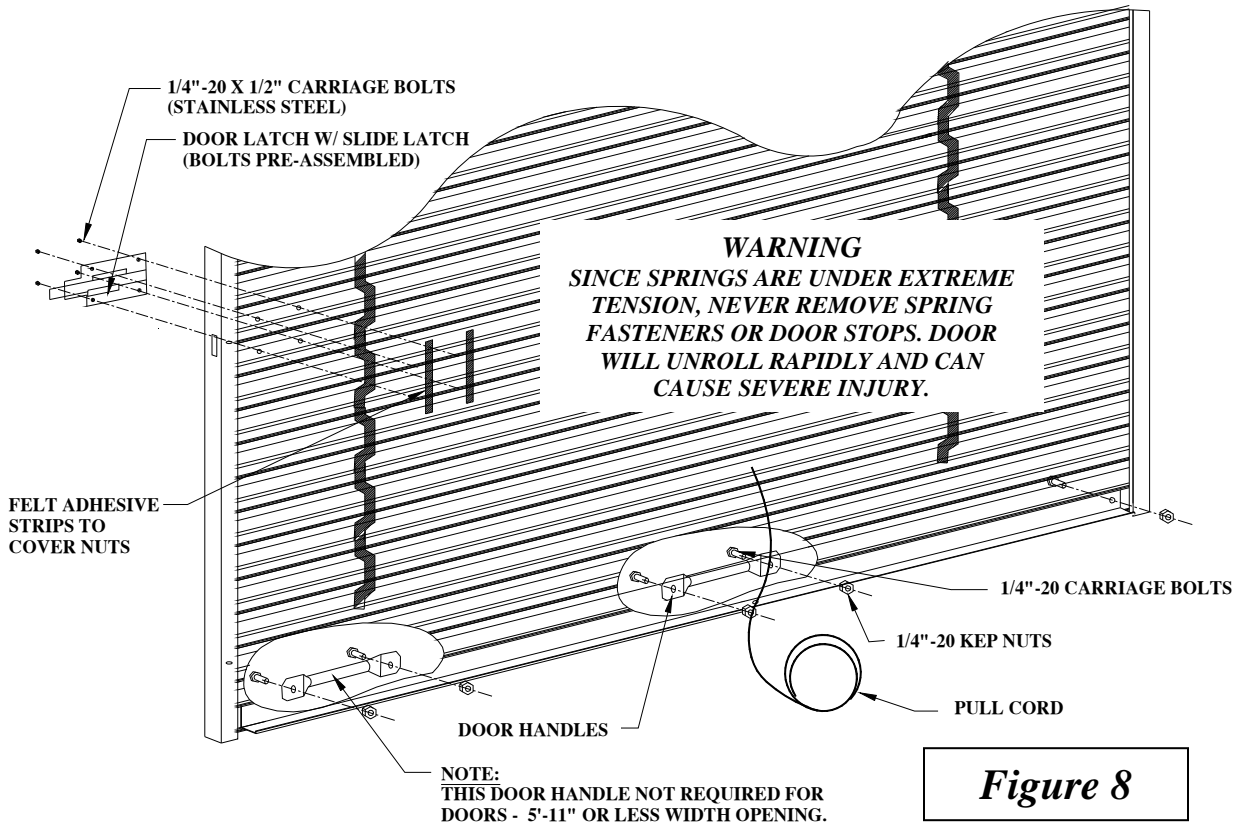

**Figure 6**
**STEP 1.** Check the door opening height and width to make sure it is the correct size door ordered. Make sure jambs are plumb and floor is level. (See Figure 6)
**STEP 7.** Attach the **RIGHT DOOR BRACKET ASSEMBLY** and **RIGHT TRACK** to the wall jamb with the type of fasteners that match the type of wall material (See Figure 6). Measure and position the outside edge of the **RIGHT TRACK**. Position the outside of **LEFT TRACK** the distance of door opening, plus 4" as shown in Figure 6 (Example: an 8'-0" opening should have a distance of 8'-4" outside of tracks.) Attach **LEFT DOOR BRACKET ASSEMBLY** and **LEFT TRACK** to jamb. Be sure the tracks are plumb and level. Remove protective wrap from door at this time but **do not cut or remove strapping.**